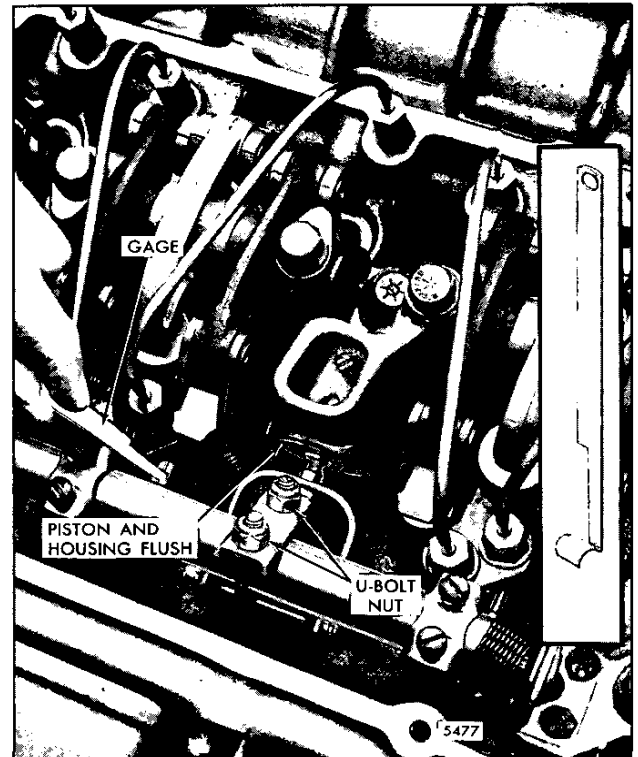

Fig. 7 - Adjusting Throttle Delay Cylinder
1. Refer to Fig. 7 and insert gage J 23190 (.454" setting) between the injector body and the shoulder on the injector rack. Then exert a light pressure on the injector control tube in the direction of full fuel.